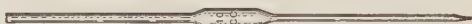

FIGURE 113.
20. Why must air be sucked out of the top of a pipette (Figure 113) in order to fill it with a liquid? When the top is tightly closed with a finger tip and the pipette lifted out of the jar, the liquid does not run out. Explain.